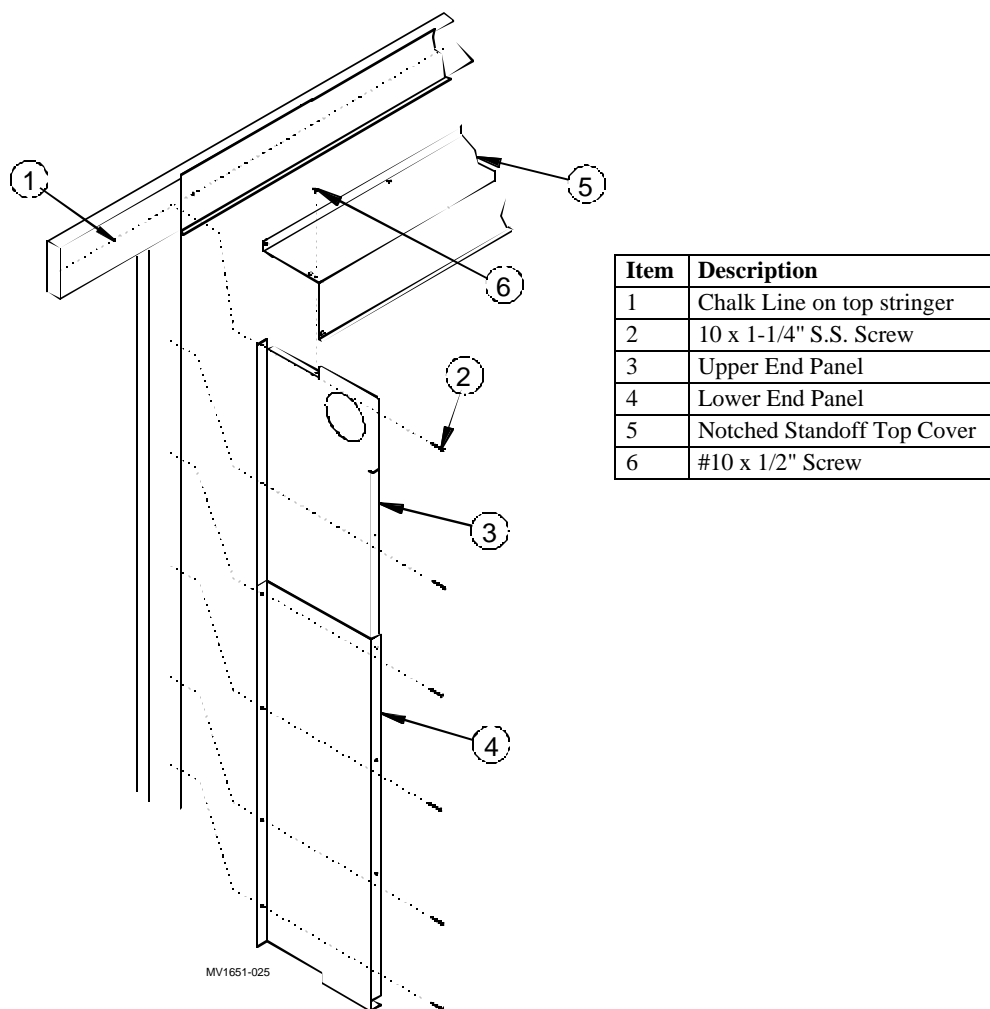

Figure 19. End Panel Installation
1. Locate the top mounting hole (in the flange of the Upper End Panels) on the chalk line. This will properly align the hole for the Distribution Pipe with the Pipe Hangers (See **Figure 19**). Secure the Upper End Panels to the top stringer using the #10 x 1-1/4" Screws, as shown in **Figure 19**.
2. Use #10 x 1/2" Screws (**Item 6, Figure 19**) to attach Upper End Panel to Top Cover.
4. Align mounting holes in the upper and lower end panels and secure the end panels to the frame using the #10 x 1-1/4" Screws (**Item 2, Figure 19**).